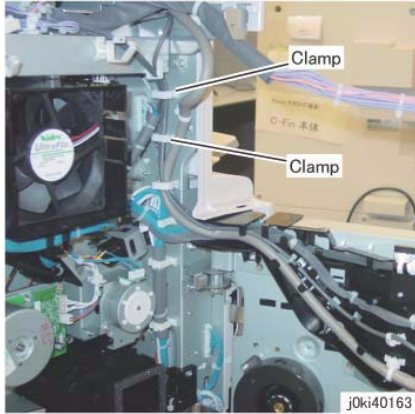

Figure 1 Store the excess USB Cable in between the clamps
3. When replacing the USB Cable, store the excess length in between the clamps (x2) as shown in the figure. (Figure 1)